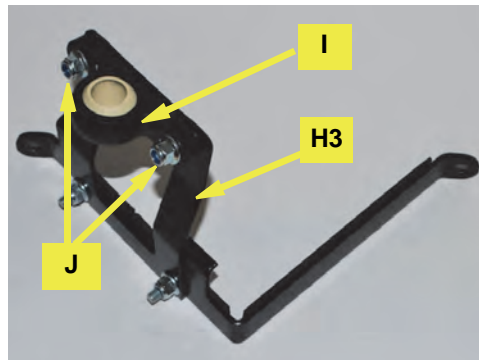

Figure 3b: Pillow block on mounting bracket (on front clamp bracket)
b. Using flanged nuts **J**, mount the pillow block **I** on its mounting bracket **H3** (Figure 3b).